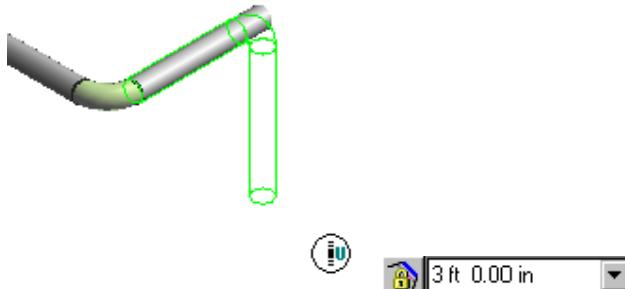

Figure 23: Routing Pipe in the Vertical Direction
21. Position the cursor down until SmartSketch displays the **U** glyph, as shown in Figure 23.